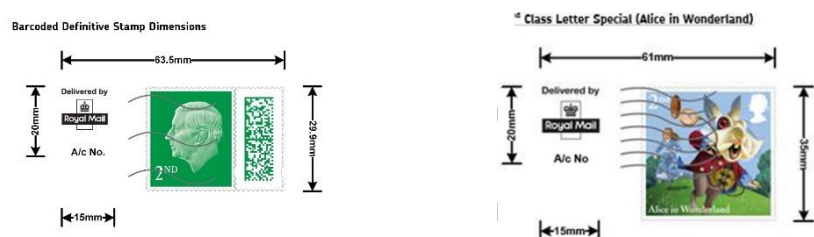

Figure 33: Access License Number positioning and dimension requirements for Digital Stamp Indicators
- b. You must ensure that the correct Access Licence Number (C9 number) relevant to the Access Contract you use for the Posting is added to the artwork in the position detailed in Figure 33 and Figure 34 below.
- e. Artwork must meet the exact dimensions of the Digital Stamp artwork (see Figure 33 below).